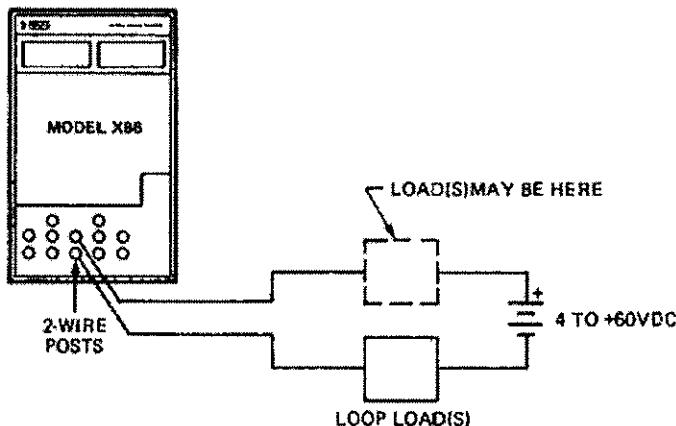

**Figure 3-5:** Thermocouple Simulation Using Direct Connection
**3.3.2 Thermocouple Simulation without Use of External Reference Junction:** Connect the Model X86 to the instrument or system being calibrated as shown in Figure 3-5.